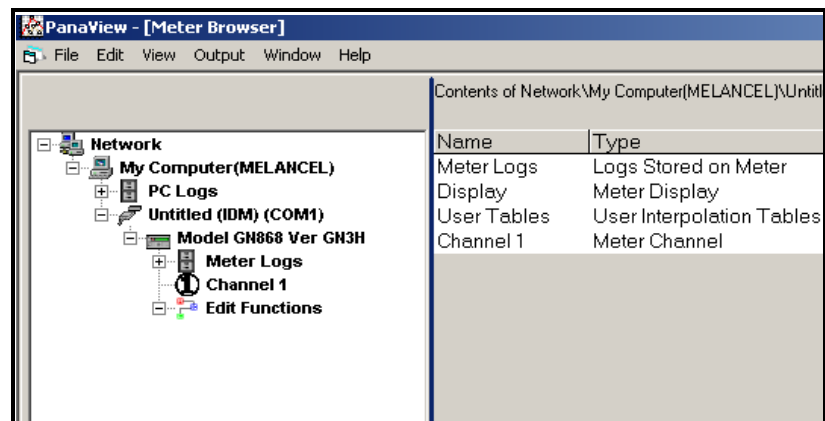

Figure D-18: *New Meter Browser* with Meter Branch
3. Then expand the meter tree as shown in Figure D-18 below.